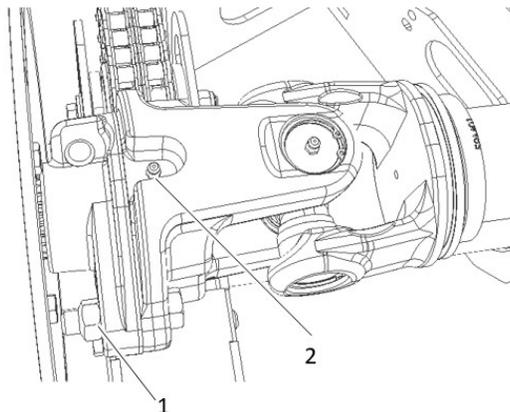

Figure 87 Cutter head drive shaft shear bolt
The cutter head drive shaft is protected by a 12 mm X 55 mm, grade 8.8 safety bolt (item 1, Figure 87).